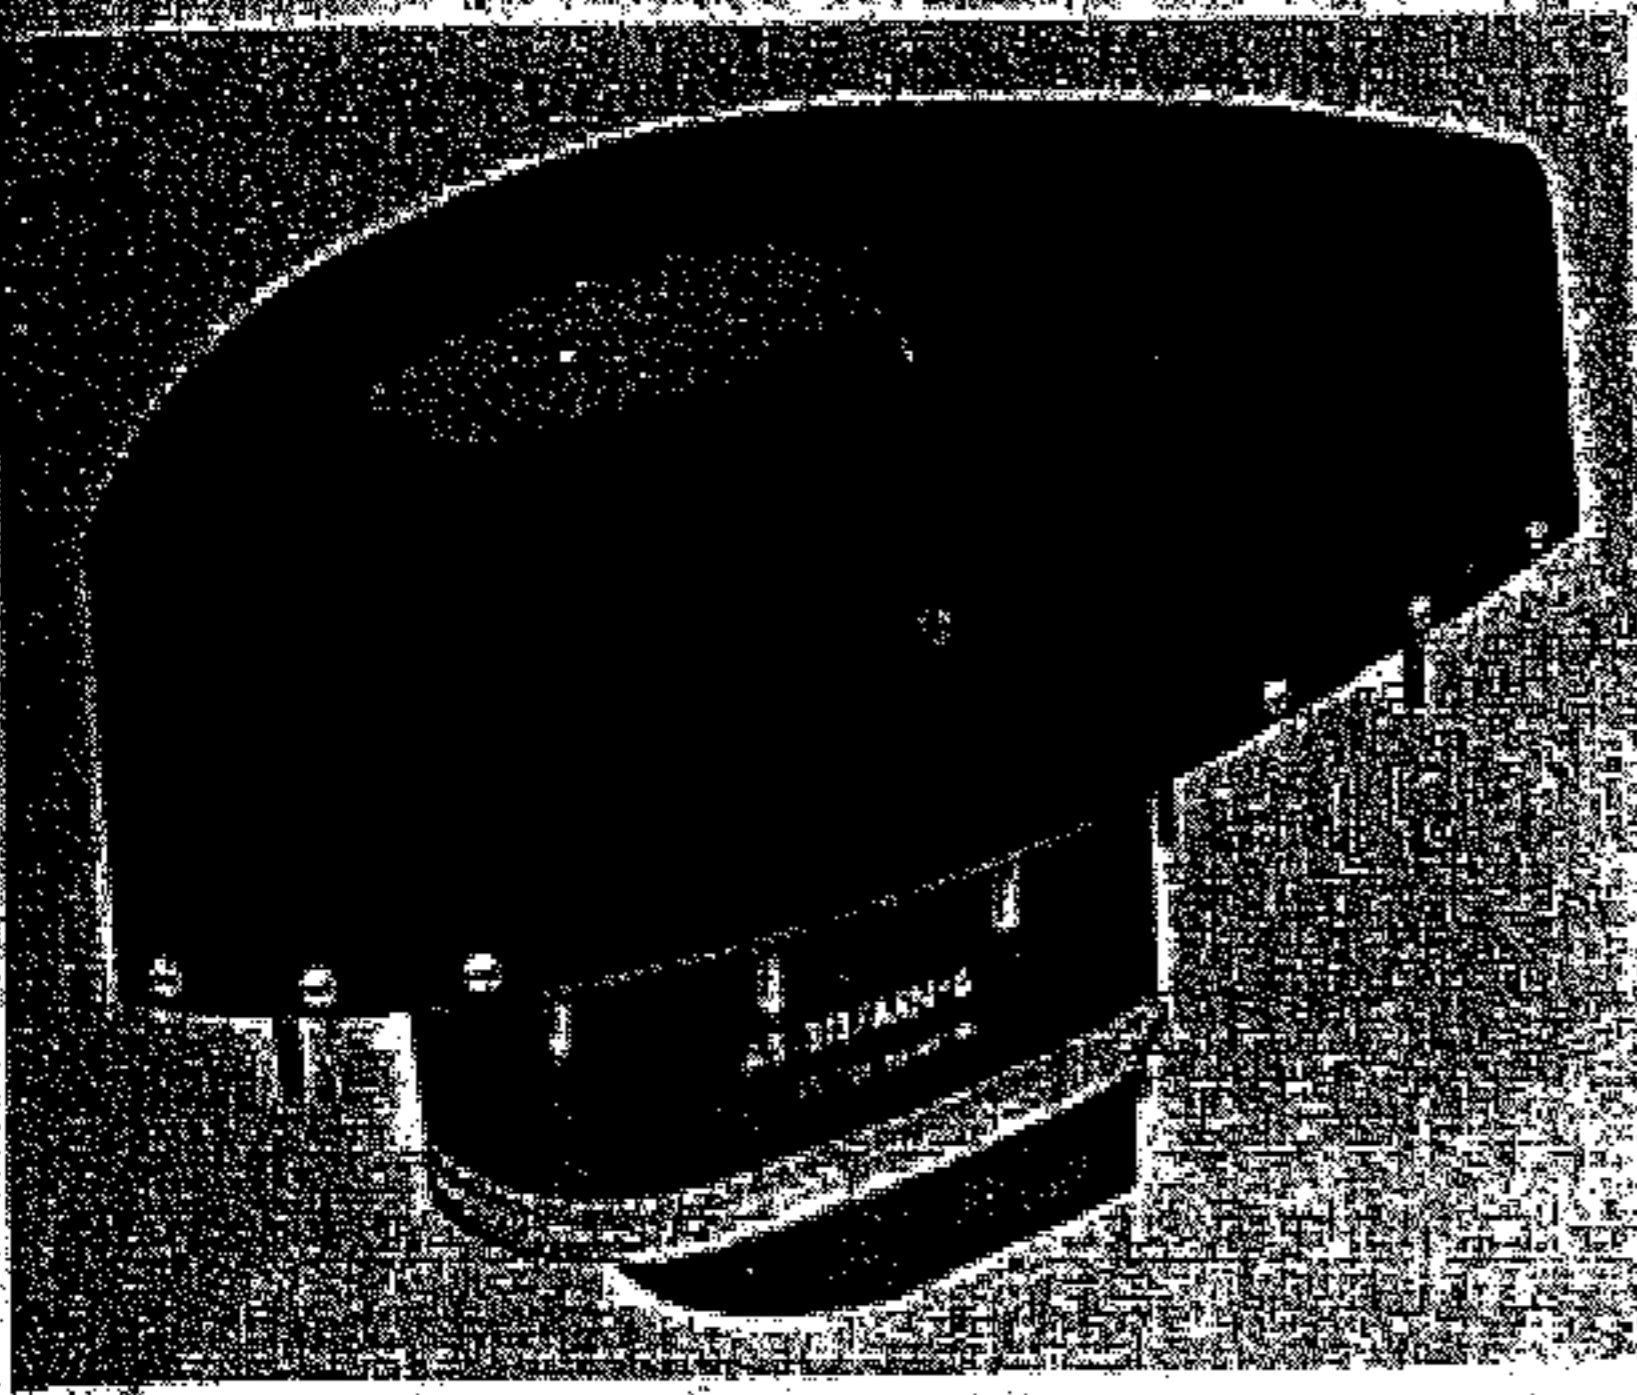

Figure 1-8. Loop A5-313/ARN-6, A5-313A/ARN-6, or A5-313B/ARN-6
**f. LOOP AS-313/ARN-6, AS-313A/ARN-6, AN AS-313B/ARN-6.** (See figure 1-8.)—Loop AS-313/ARN-6, AS-313A/ARN-6, or AS-313B/ARN-6 is a iron core loop of nine turns, electrically center-tapped by means of a shunt coil of twelve turns and electrically shielded. The loop, in operation, is rotated by the drive motor through a reducing gear train. A compensator, which can be adjusted externally, is utilized to correct for radio compass deviation errors. An autosyn transmitter is geared through the compensator to the rotatable loop and supplies loop position information to the remote indicator system. The loop is designed for mounting through the skin of the aircraft. The entire loop unit is hermetically sealed and filled with dry nitrogen. It cannot be opened without special equipment.